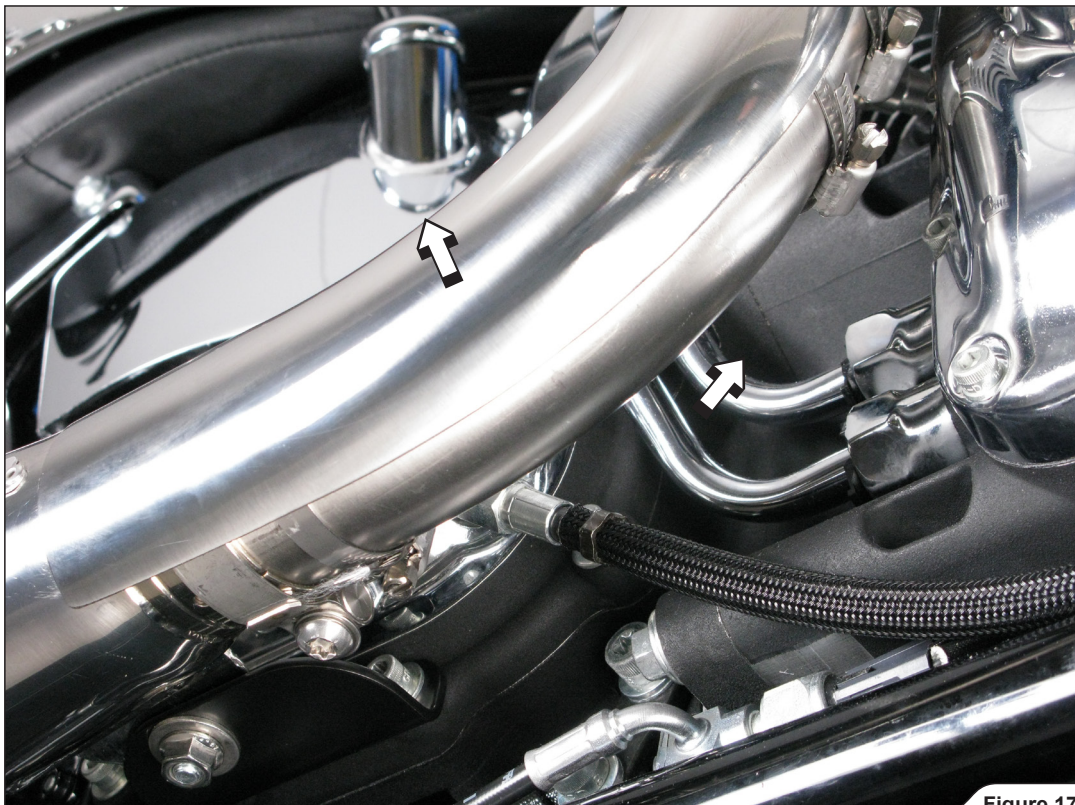

Figure 17
15. Correctly attach the lower heat shield onto the collector and align it in respect to the pipes, upper heat shield and muffler. Slide the two tape clamps (mark 40-60) over the heat shield's brackets and tighten the clamps (Figure 17).